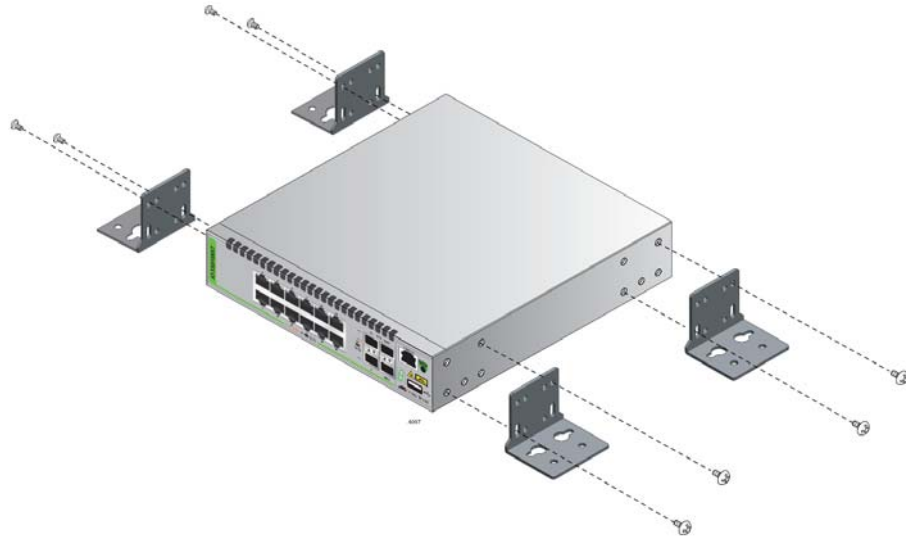

Figure 42. Installing the Wall Brackets
2. Install the four AT-BRKT-J24 wall brackets to the sides of the unit, with the sixteen M4x6mm screws included with the switch. Refer to Figure 42.
2. Install the four AT-BRKT-J24 wall brackets to the sides of the unit, with the sixteen M4x6mm screws included with the switch. Refer to Figure 42 on page 76.